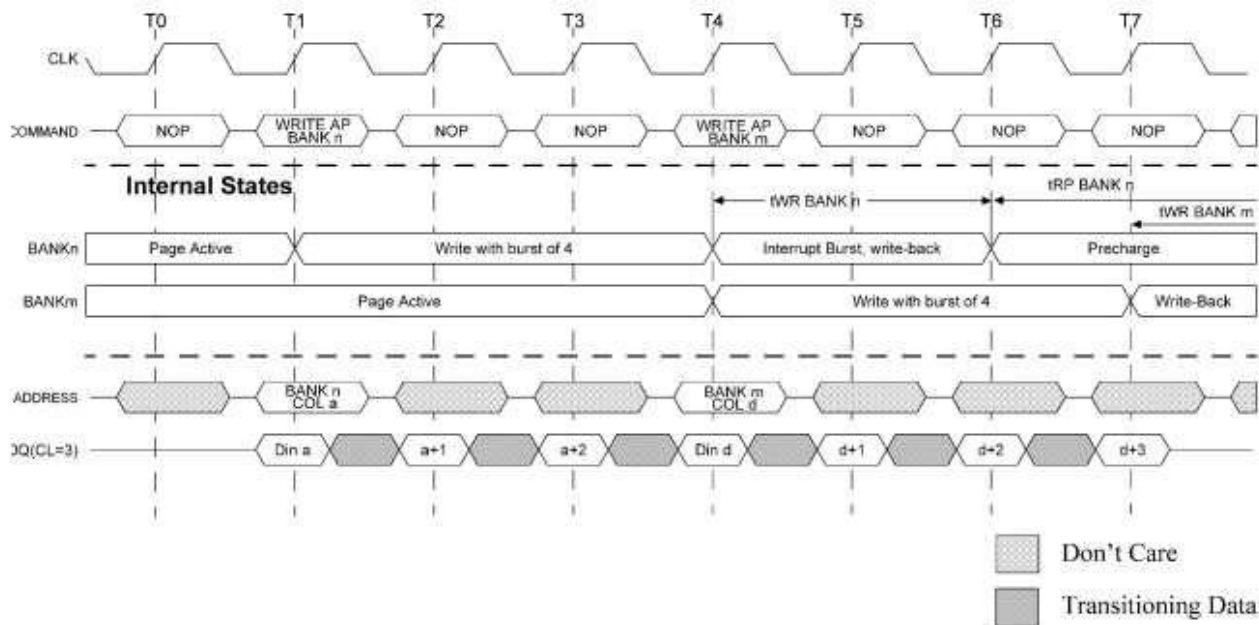

Figure 30: WRITE with Auto Precharge Interrupted by a WRITE
Interrupted by a WRITE (with or without auto precharge): A WRITE to bank m interrupts a WRITE on bank n when registered. The PRECHARGE to bank n begins after t_{WR} is met, where t_{WR} begins when the WRITE to bank m is registered. The last valid data WRITE to bank n will be data registered one clock prior to a WRITE to bank m (see Figure 30).
17. For a WRITE with auto precharge interrupted by a WRITE (with or without auto precharge), the WRITE to bank *m* interrupts the WRITE on bank *n* when registered. The PRECHARGE to bank *n* begins after tWR is met, where tWR begins when the WRITE to bank *m* is registered. The last valid WRITE to bank *n* will be data registered one clock prior to the WRITE to bank *m* (Figure30).